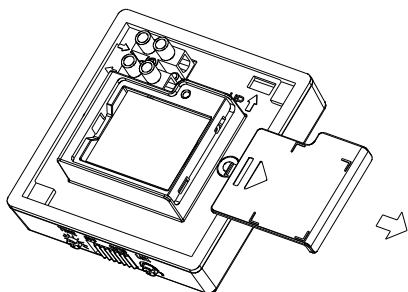

FIGURE 4
- (1) Switch off the power source.
- (2) Remove the battery cover by sliding and lifting it off. (FIGURE 4)